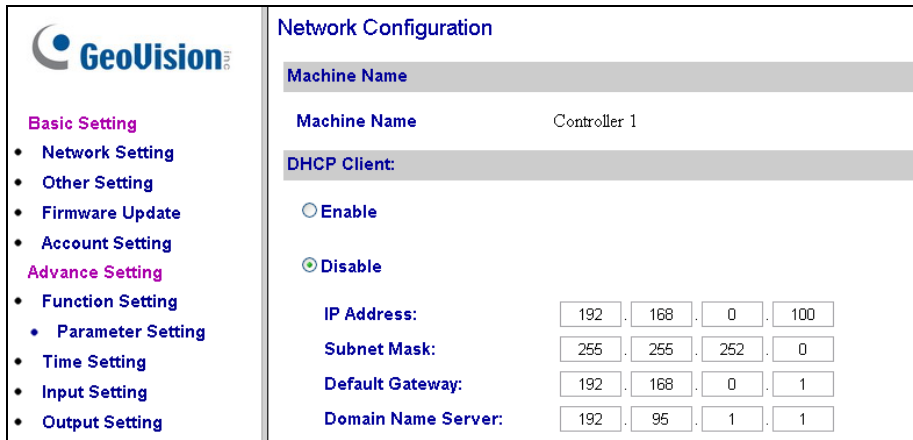

Figure 19-2
- Open the browser and enter the assigned IP address of the controller. The Network Configuration page appears. See Figure 19-2.